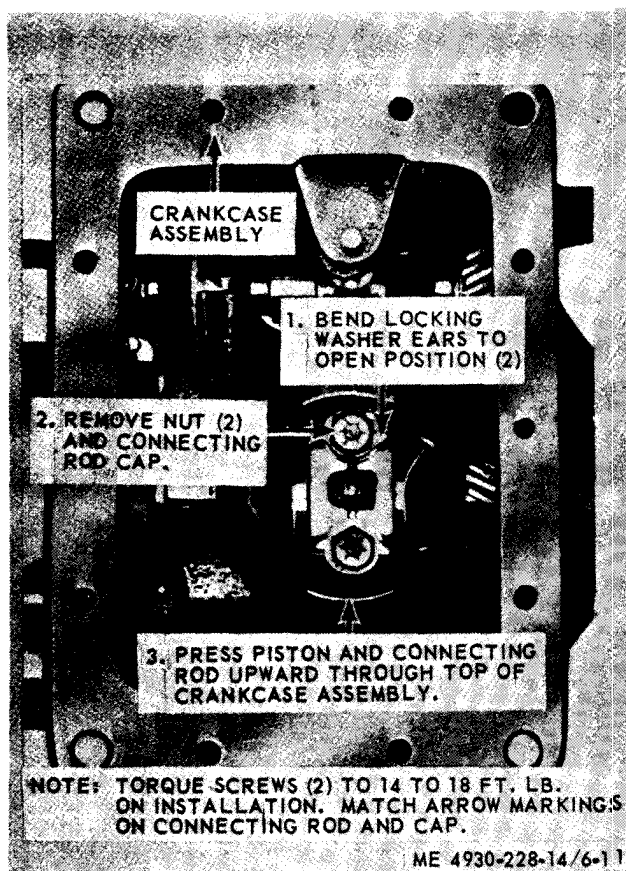

Figure 6-11. Piston and connecting rod removal.
- (1) Remove engine base and oil pump (para 6-10).
- (2) Remove cylinder head (para 6-7).
- (3) Refer to figure 6-11 and remove the piston and connecting rod.
(1) Refer to figure 6-11 and install the piston and connecting rod in reverse order of removal.
(2) Install the cylinder head (para 6-7).
(3) Install engine base (para 6-10).